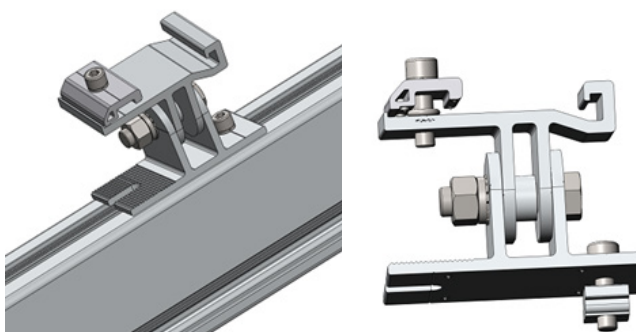

Fig. 19
5.2.2.1 Click the pre-assembled East/West Adjustable Bracket into the Tri-Groove Beams and adjust properly as shown in Fig.19. Fasten the M8 bolt slightly with the Allen key.